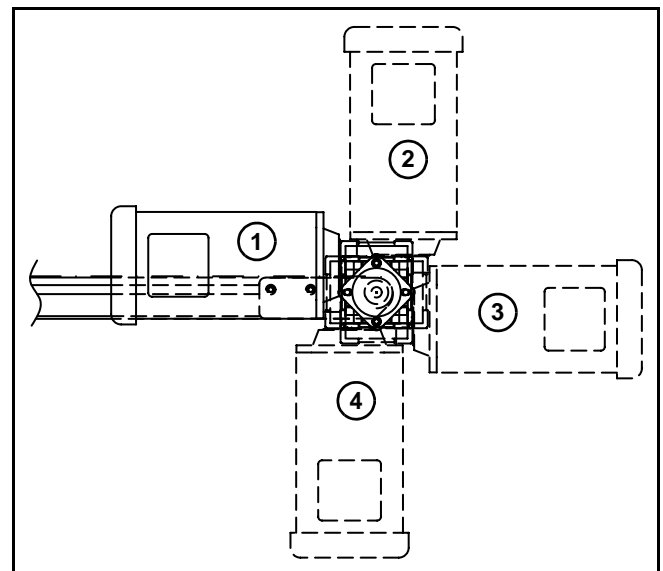
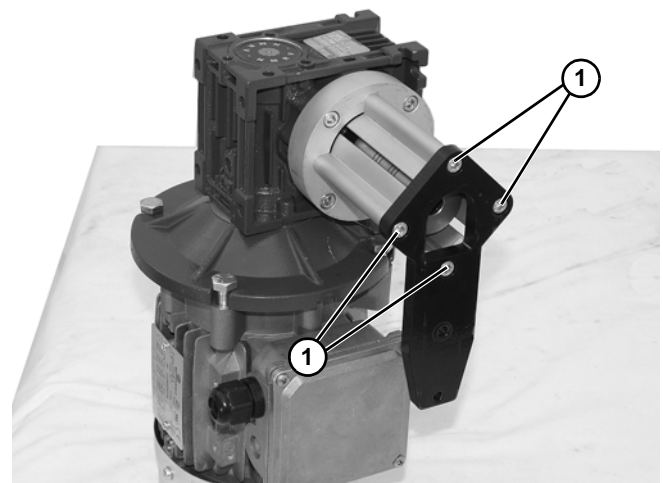

Figure 5
Figure 6
| <p>Gearmotor may be operated in positions 1, 2, 3 or 4 (Figure 5).</p> |
2. If required, change gearmotor position by removing four (4) screws (**Figure 6, item 1**). Rotate gearmotor to other position (**Figure 5**) and replace screws (**Figure 6, item 1**). Tighten to 100 in-lb (12 N-m).